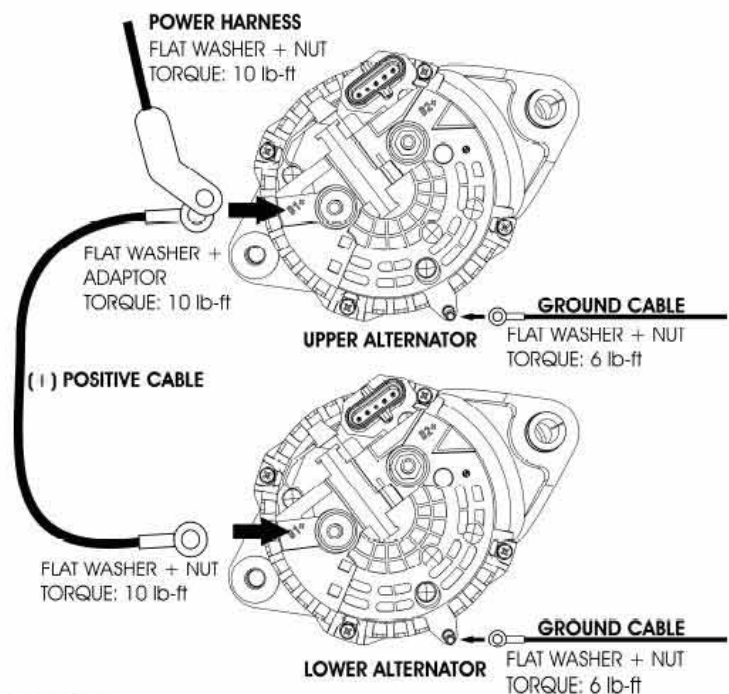

FIGURE 5
7. Connect ground harness and (+) positive cable on the lower alternator as shown on figure 5.
9. Connect ground harness and (+) positive cable on the upper alternator as shown on figure 5.